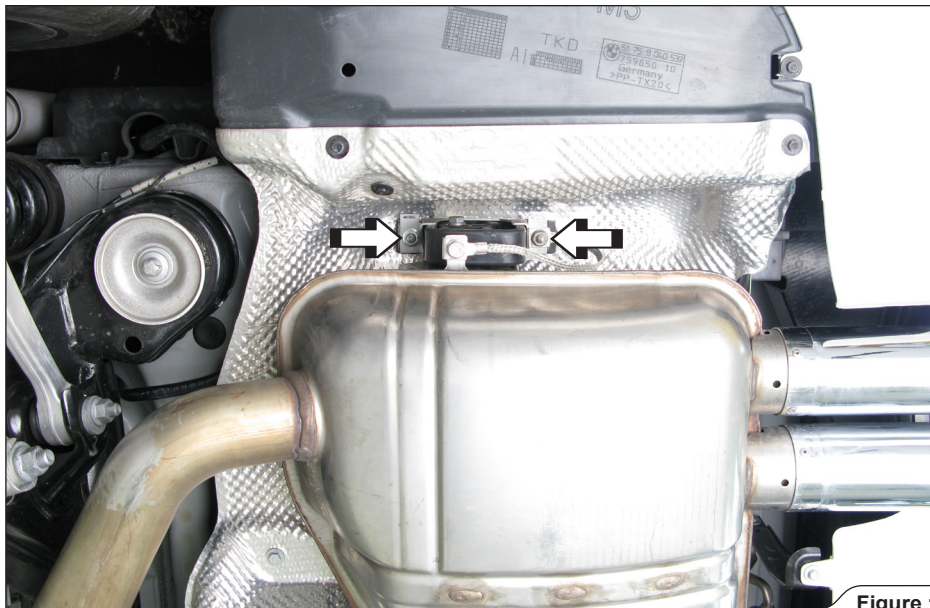

Figure 1
1. **For Slip-On and Evolution:** unscrew the M8 nuts from stock muffler rubber brackets on both sides of the vehicle (**Figure 1**).